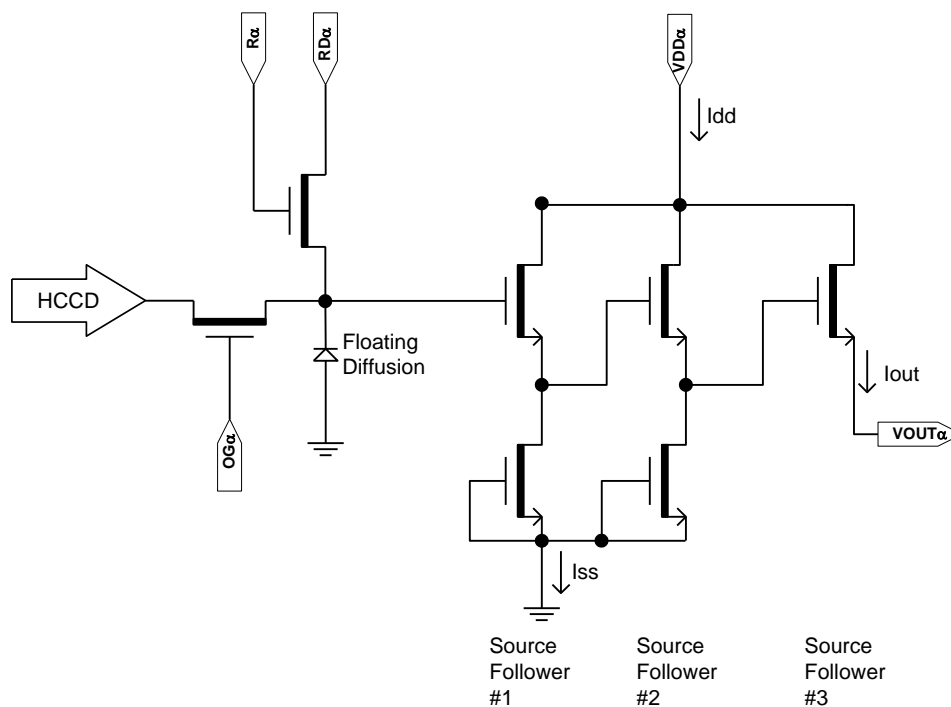

Figure 13: Output Amplifier
2. The maximum DC current is for one output. $I_{dd} = I_{out} + I_{ss}$. See Figure 13.